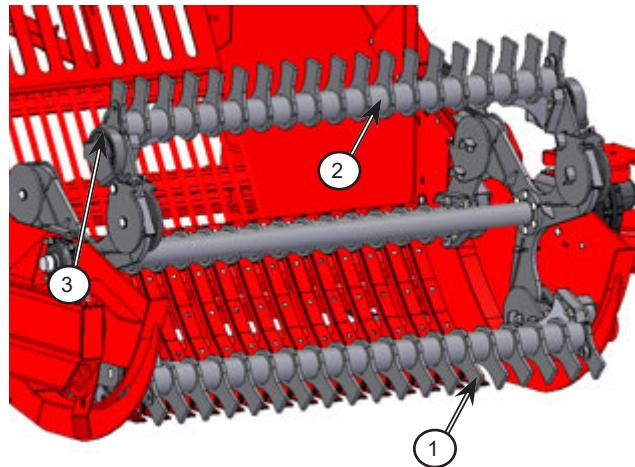

Figure 6.28: Check the condition of the reel
3. Check the condition of the reel; see Figure 6.28.
- a. Check that the bat teeth (1) are in good condition.
- b. Check that the bats (2) are in good condition and are not loose. Tighten as required.
- c. Check that the reel bat springs (3) are in good condition and are not broken.